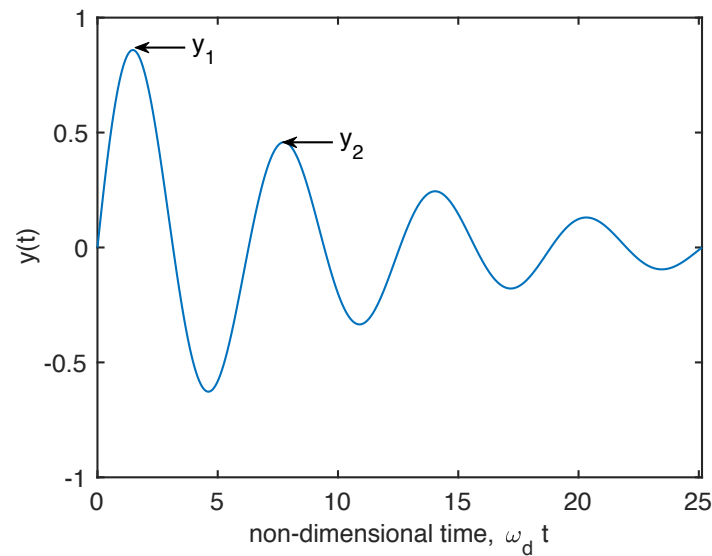

Figure 3 – An example of “ringing” behavior for a damped harmonic oscillator.
Your data should look similar to Fig. 3. It should be a nice sinusoid with an exponential decay envelope, just as you would expect for the ringing of a damped harmonic oscillator. If your data is noisy, try using the smooth() function in Matlab to filter out the noise. For your lab reports, you will need to quantitatively compare your data with Eq. (7). To do this, we will use the data to calculate λ , ω_d , and ϕ and estimate A .